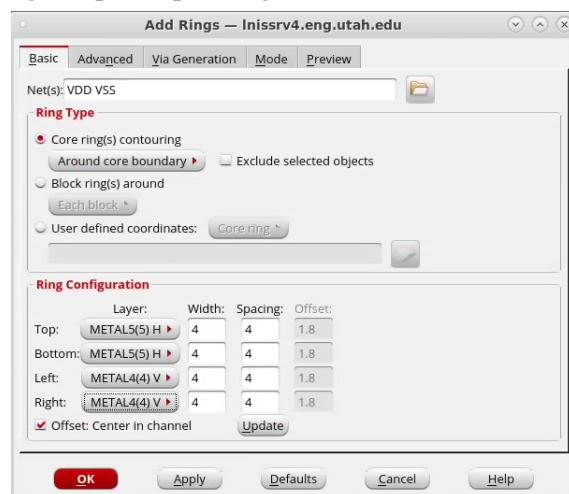

Figure 13: Adding the power ring around the core area.
2. Specify the power and ground nets as in Fig. 13.
3. Specify the layers and the width of each ring as well as the spacing between each ring, as in Fig. 13. The *Ring Configuration* defines the ring metal wires widths and spacing. Here, the horizontal power metal wires will be in metal5 and the vertical ones in metal4. The ring will be placed in the center of the channel between the core and the chip boundary (or the I/O pads, if there are some).